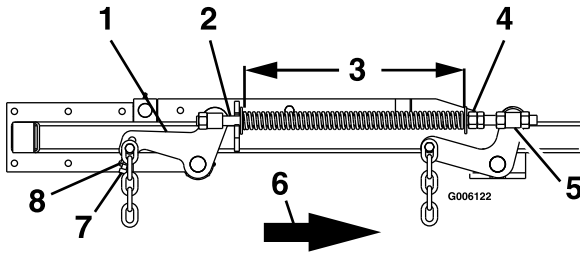

Figure 14
5. Raise the deck to the 5 inch (12.7 cm) height position (also transport position) and take all force off of the two large deck lift springs by loosening the nuts at the front of each spring (Figure 14).
12. Raise deck lift lever to the 5 inch (12.7 cm) cutting height position (Figure 8). Adjust spring compression until proper distance is obtained between the two large washers (Figure 14). Adjustment is made by turning the nut at the front of each spring (clockwise will shorten the spring, counterclockwise will lengthen the spring). Lock in position with jam nuts.